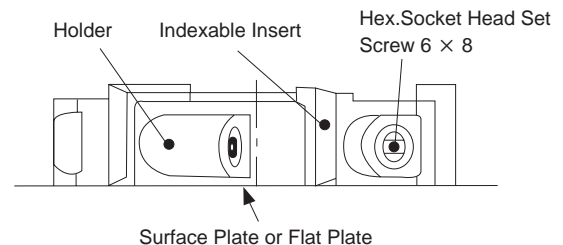

Fig.10
- (3) Remove chips. Insert the Indexable Insert into the Holder, paying attention to the shape of the Indexable Insert. Fix the Indexable Insert with the Hex. Socket Head Set Screw 6 x 8. (Fig.10)